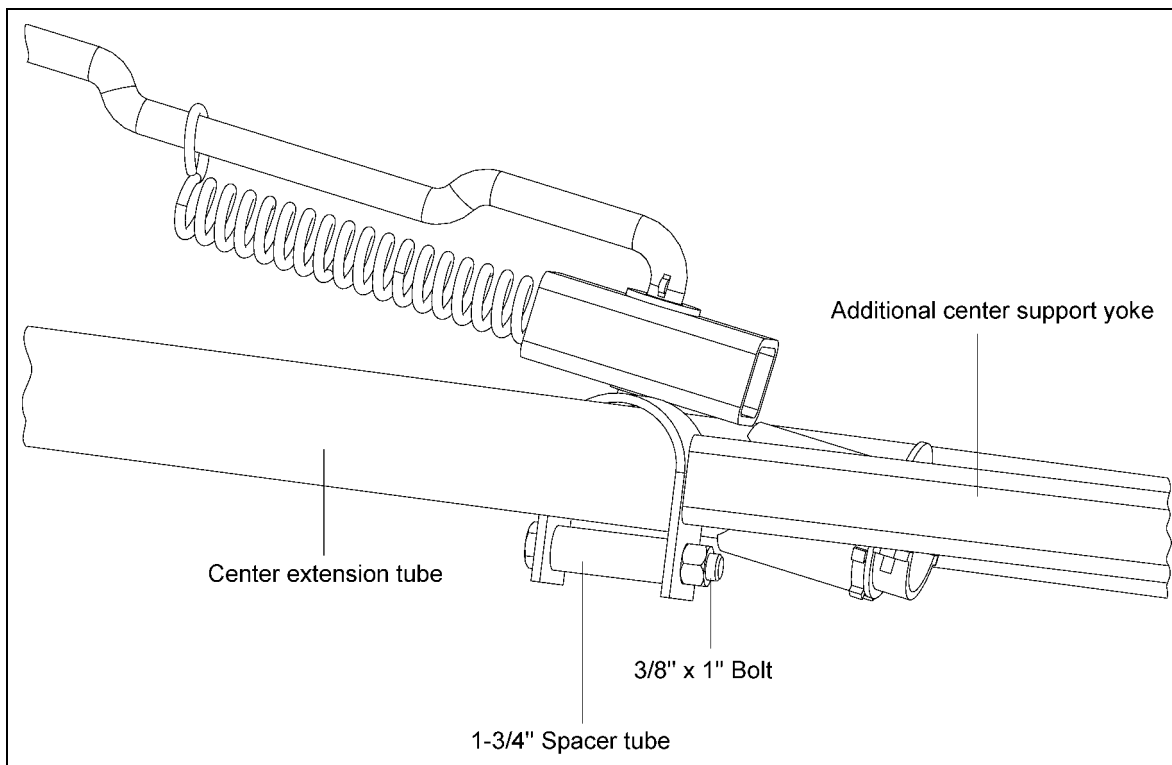

Figure 4X
- 36' units have an additional center support yoke. Attach the top end of the support yoke to the center extension tube using a 1-3/4" spacer tube, one 3/8" x 2-1/2" hex head bolt and hex lock nut. Locate approximately 4" from wire support swing arm toward the outboard end side. (See Figure 4X.)